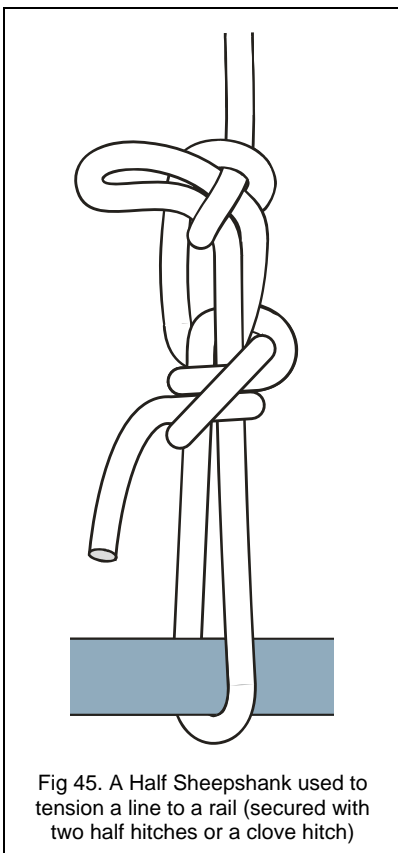

Fig 45. A Half Sheepshank used to tension a line to a rail (secured with two half hitches or a clove hitch)
- The example as shown *in figure 45* has been secured with two half hitches or a clove hitch. An alternate finishing method is to tie a clove hitch directly to the rail.